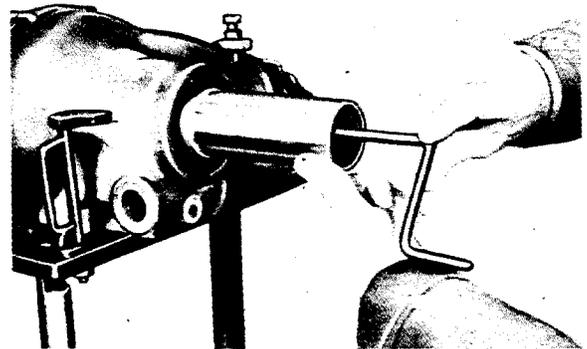

Fig. H 3a/65
65. rear axle tube. Tighten the screw and knock the lock plate up. Bolt sliding joint to right-hand rear axle shaft in differential housing by means of the tightening screw (Fig. H 3a/65). Be careful not to interchange the adjusting washer which has been selected previously (see Operation No. H 3a, cf. 40).
66. Attach rubber boot to rear axle housing. The large bulge of the eccentric boot must be at top (see Fig. H 3a/69).